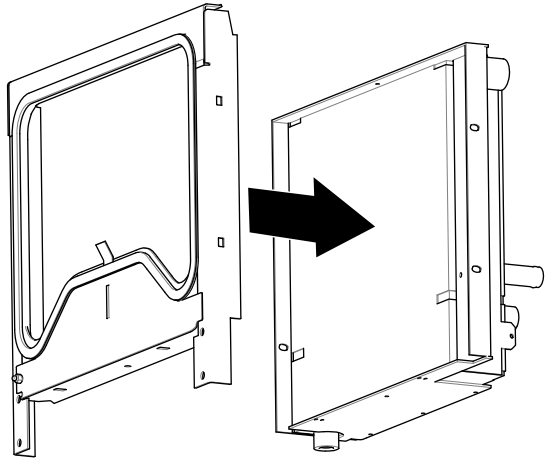

Figure 26
1. Align the holes in the mounting frame to the holes in the radiator/oil cooler (Figure 26).